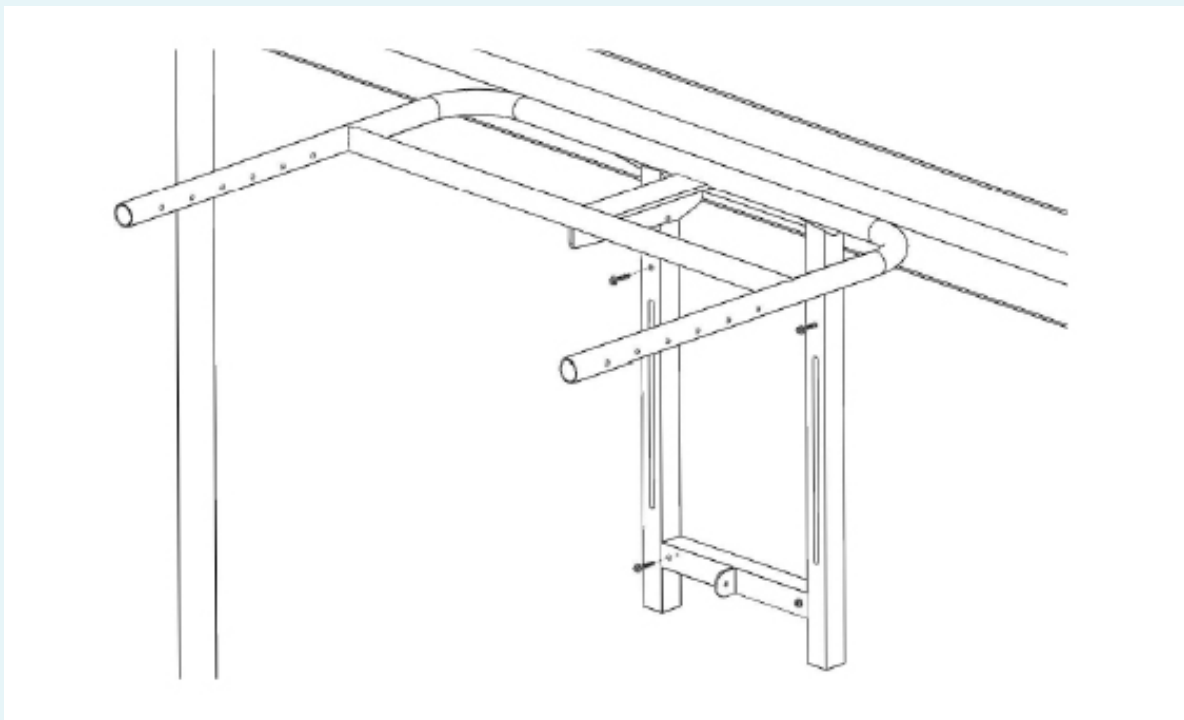

Figure 7
- 7 Mount the ccAA Main Unit to the side of the spa using the ccZ Lag Bolts. See Fig 7.